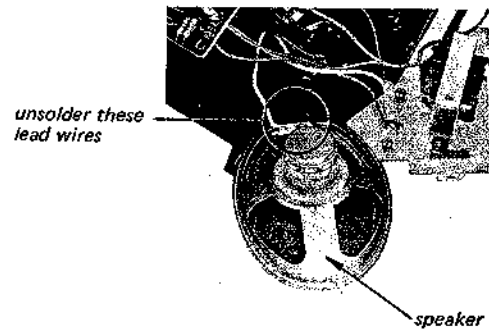

Fig. 2-11.
6. Unsolder the two lead wires as shown in Fig. 2-11.